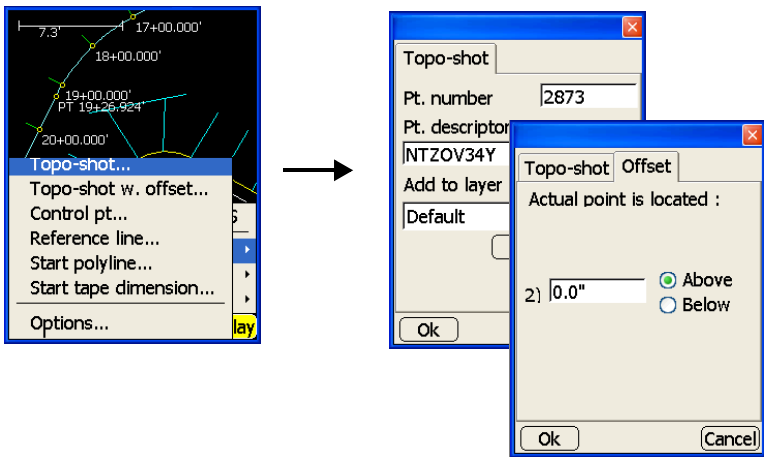

Figure 6-4. Topo-Shot/Topo-Shot with Offset
1. To collect a topo-shot, press **Survey ▶ Measure pts ▶ Topo-shot** (Figure 6-4) or press **Survey ▶ Measure pts ▶ Topo-shot w/ offset**.
2. On the *point properties* dialog box (Figure 6-4 on page 6-5), tap the point number and point descriptor (optional) fields, and enter desired information using the pop-up keyboards.
3. Select a layer in which to store measured points, or add a new layer in which to save points (Figure 6-4 on page 6-5).
4. For topo-shots with offset surveys, tap the *Offset* tab and enter an offset above or below the measured point (Figure 6-4 on page 6-5).